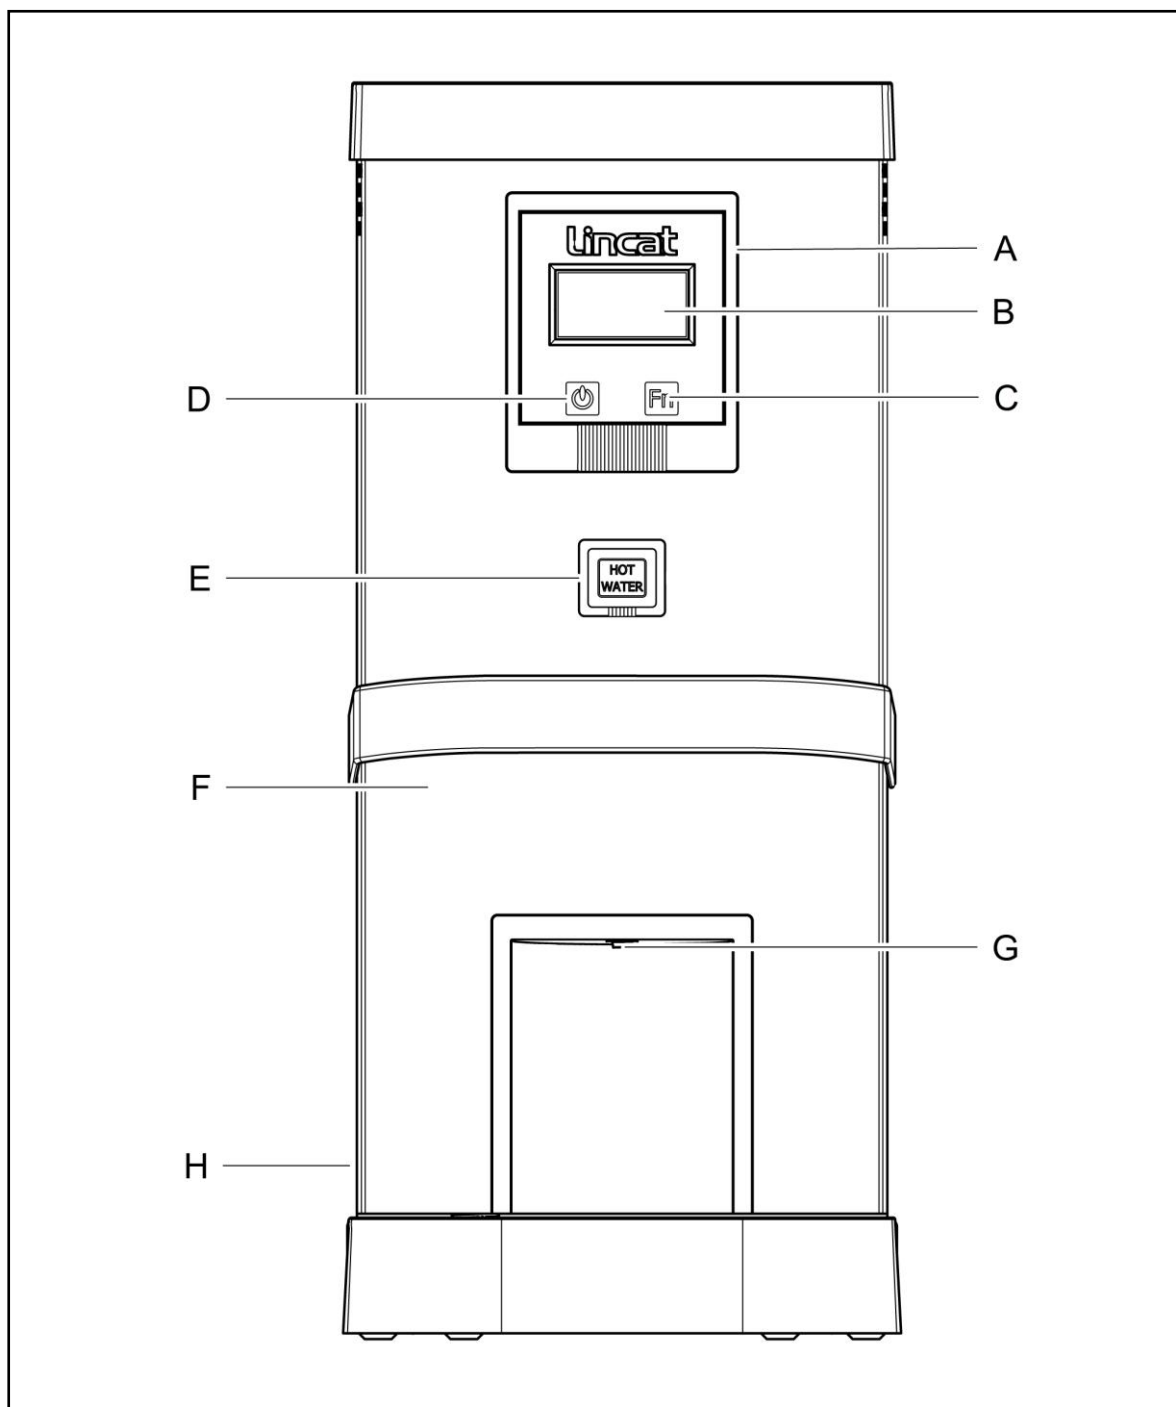

Fig 1
The serial plate is located on the side of the appliance Fig 1 (H).
Consult Fig 1.
Remove the drip tray from the appliance. Pull the bottom of the lower panel (Fig 1 (F)) outwards and release the two spring pins. Slide the panel downwards to remove.